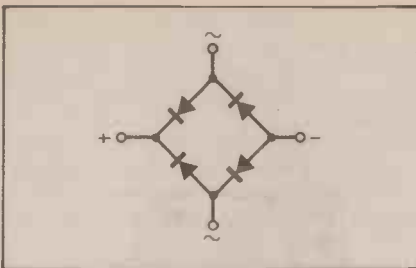
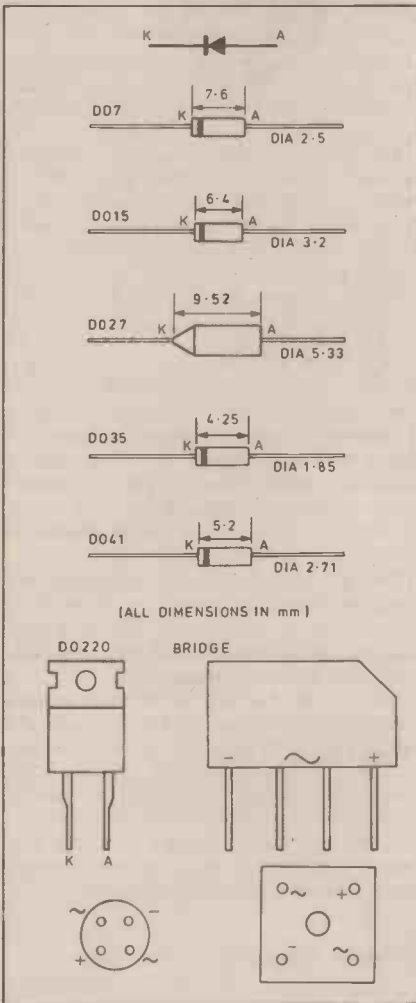

Fig. 4. Bridge rectifier arrangement.
Fig. 5. Diode encapsulations.
*Rectifier diodes* need to be able to cope with high values of reverse voltage and large values of forward current, consistency of characteristics is of secondary importance in such applications. Rectifier diodes are often available in the form of a *bridge* (see Fig. 4) which provides full-wave rectification. Various diode encapsulations are illustrated in Fig. 5.